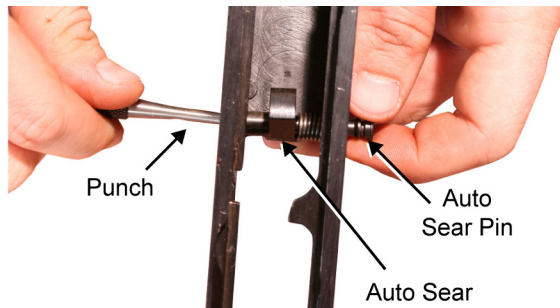

Figure 61. Installing the Auto Sear Retaining Pin.
- c. Insert the auto sear retaining pin from the left side of the receiver, ensuring to thread the pin through the auto sear spring and the auto sear. Refer to Figure 61.